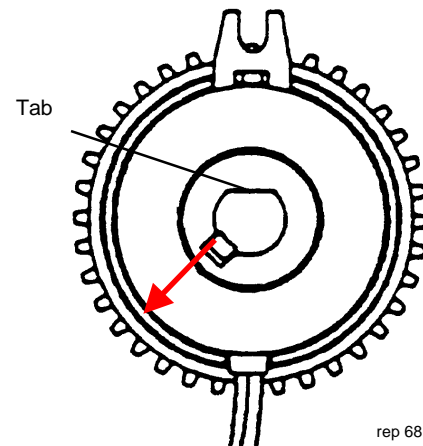

Figure 2. Removing the Clutch
4. (Figure 2): Push the tab in the direction shown and pull the clutch off of the shaft.